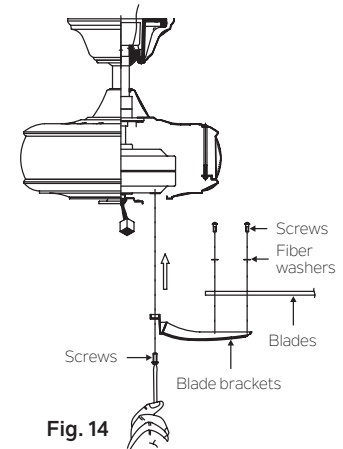

Fig. 14
Step 1. Attach a blade to a blade bracket using the screws and fiber washers provided. (Fig. 14)
Step 2. Attach each blade assembly to the motor using the “Pre-Installed” mounting screws in the blade bracket. (Fig 14)